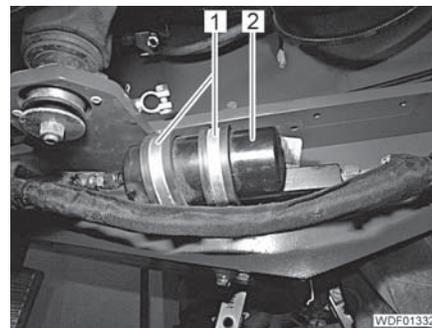

Fig. 408 Dryer
- Remove the dryer (Fig. 408,2).
- Remove the 2 clamps (Fig. 408,1).
- Fit 2 clamps (Fig. 408,1) to the dryer.
- Position the dryer (Fig. 408,2) on the rear carriage.